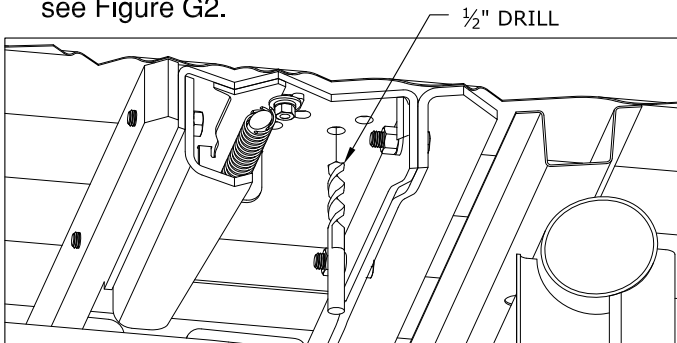

Figure G2: Cut away view of bed and center section
- 1. Drill the holes.** From under the bed use a drill and a $\frac{1}{2}$ " drill bit to drill through the bed using the four holes that match up with a low rib in the truck as a guide. Remove any burrs created during the drilling process, see Figure G2.